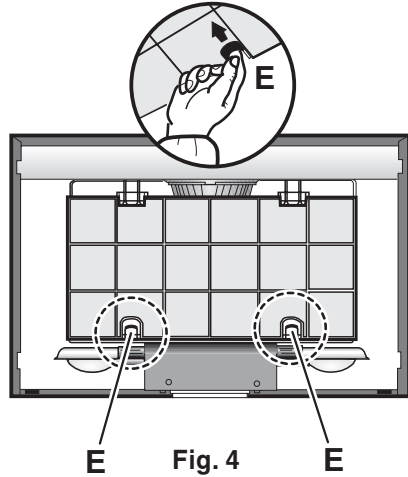

Fig. 4
- Fit the charcoal filter first in the upper hooks into the lower, then lock in position using tabs **E**. **Fig. 4.**